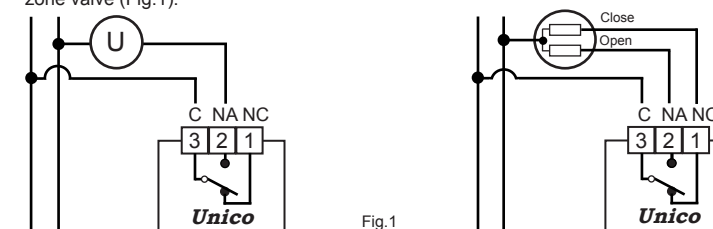

Fig.1
Connection to burner, wallmounted boiler, air conditioning system, spring return zone valve (Fig.1):
Connection to zone valve (Fig.1):
- 1 • Make the electrical connection (Fig.1).